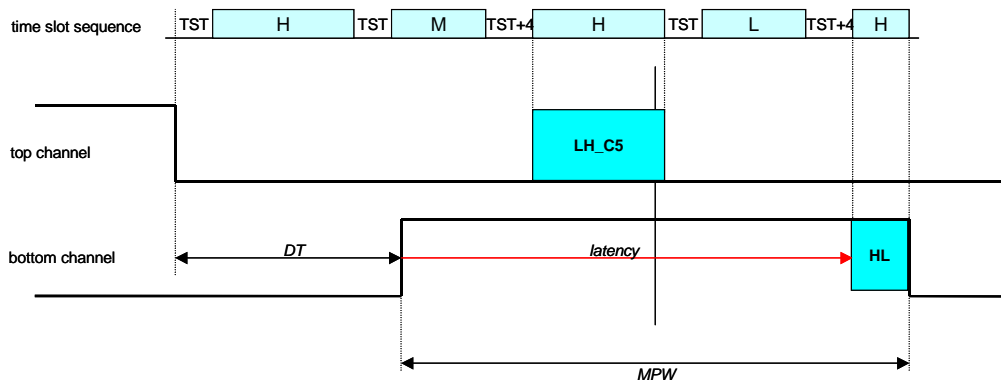
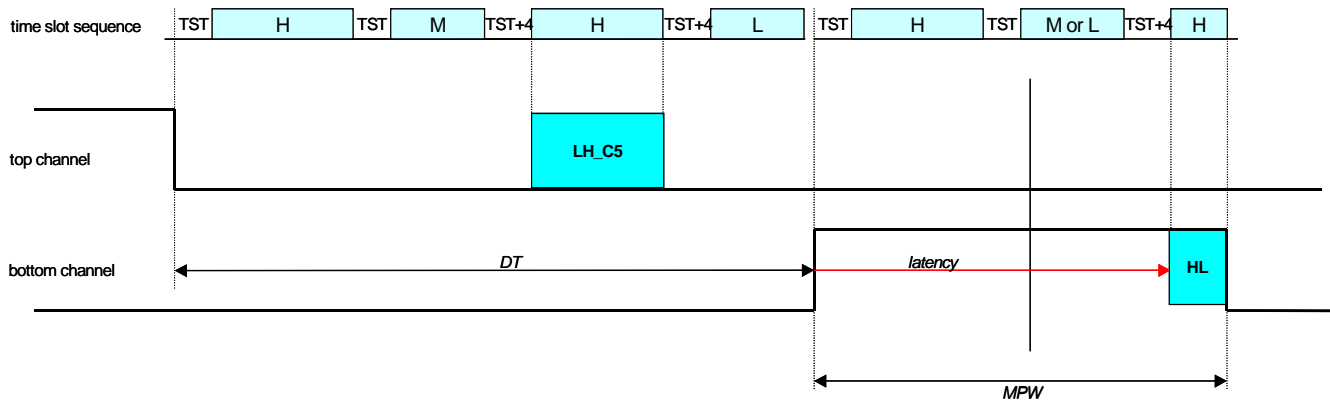

Figure 7. Worst case timing – case one
Figure 8. Worst case timing – case two
In this instance, one of the two worst case timing cases can happen. These are illustrated in **Figure 7** and **Figure 8**. Which case occurs depends on the DT .
- The first case can occur when the DT (in IMB clock cycles) is less than $TST + H + TST + M + TST+4 + LH_C5 + TST+4 + L$ (see Figure 8) that is $4 * TST + 8 + H + M + L + LH_C5$ that is $76 + H + M + L$ IMB clock cycles.
- In **case one** the MPW is (according to Figure 7)
- In **case two** the MPW is (according to **Figure 8**)